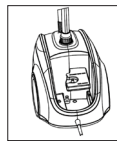

Figure 7
7. Place the Water Filter inside the water reservoir by aligning the water filter outlet with the hole in the water reservoir and push down to secure (Figure 7).